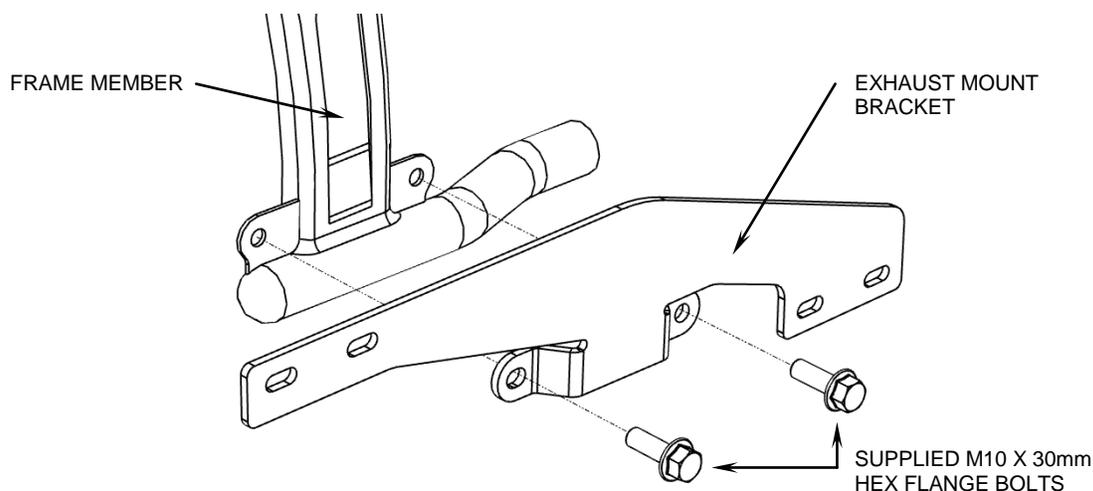

FIGURE 1
3. Install the Cobra supplied exhaust mount bracket to the frame using the supplied M10 x 30mm hex flange bolts, see Figure 1. **DO NOT TIGHTEN AT THIS TIME.**
4. Install the stock O₂ sensor into the O₂ sensor bung on the supplied front exhaust assembly, tighten it securely. Install the front exhaust assembly to the front cylinder using the stock acorn nuts removed in Step 2. **DO NOT TIGHTEN AT THIS TIME.** Align muffler with mounting holes in the exhaust mount bracket and insert (2) supplied 5/16" x 5/8" flange bolts but **DO NOT TIGHTEN AT THIS TIME.**